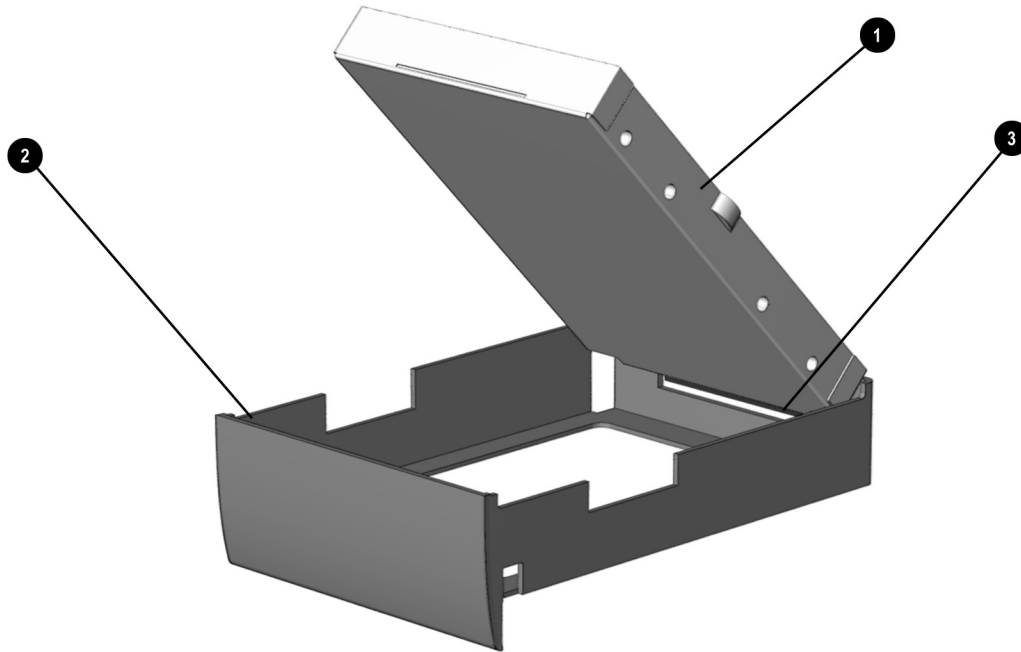

Figure 5-15. *Inserting a Hard Drive into the Hard Drive Tray*
3. Insert the metal hard drive ❶ into the plastic hard drive tray ❷ with the connectors protruding through the opening in the rear of the tray ❸ (Figure 5-15).